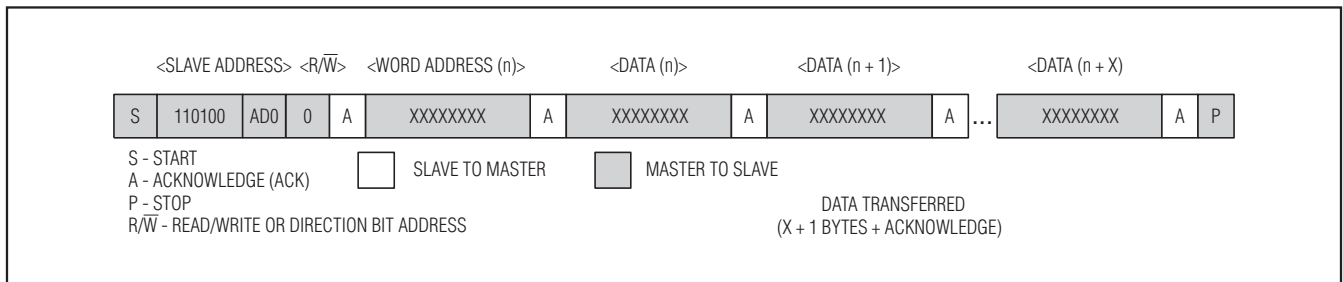

Figure 6. Data Write—Slave Receiver Mode
- 1) Slave receiver mode (DS1372 write mode):** Serial data and clock are received through SDA and SCL. After each byte is received an acknowledge bit is transmitted. START and STOP conditions are recognized as the beginning and end of a serial transfer. Address recognition is performed by hardware after reception of the slave address and direction bit (see Figure 6). The slave address byte is the first byte received after the master generates the START condition. The slave address byte contains the 7-bit DS1372 address, which is 110100 and AD0. Each slave address is followed by the direction bit ($\overline{R/W}$), which is zero for a write. The bit position signified by A is compared to the value on the AD0 input pin. After receiving and decoding the slave address byte, the device outputs an acknowledge on the SDA line. After the device acknowledges the slave address and write bit, the master transmits a register address to the device. This sets the register pointer on the device. After setting the register address, the master then transmits each byte of data with the DS1372 acknowledging each byte received. The master generates a STOP condition to terminate the data write.